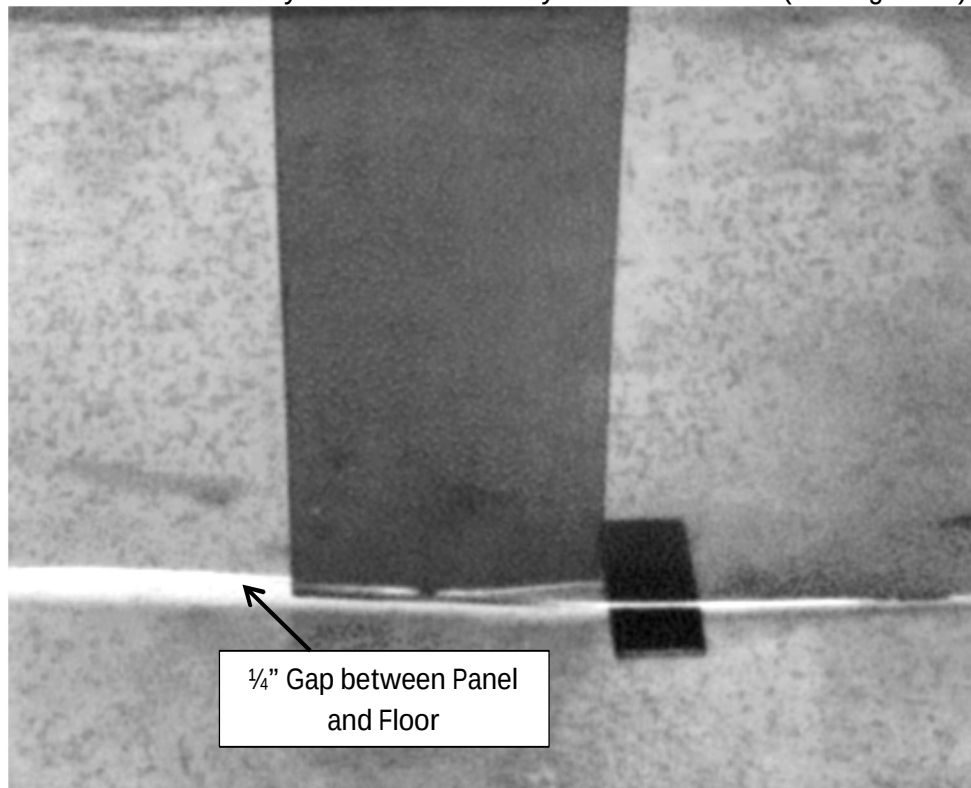

Figure 7
1. Using a utility knife, trim the bottom edge of each Puralon panel to within $\frac{1}{4}$ in. of the floor. To make it easier to move your knife through the material when trimming the panels to length, pull the excess material away from the blade as you make the cut. (See Figure 7.)